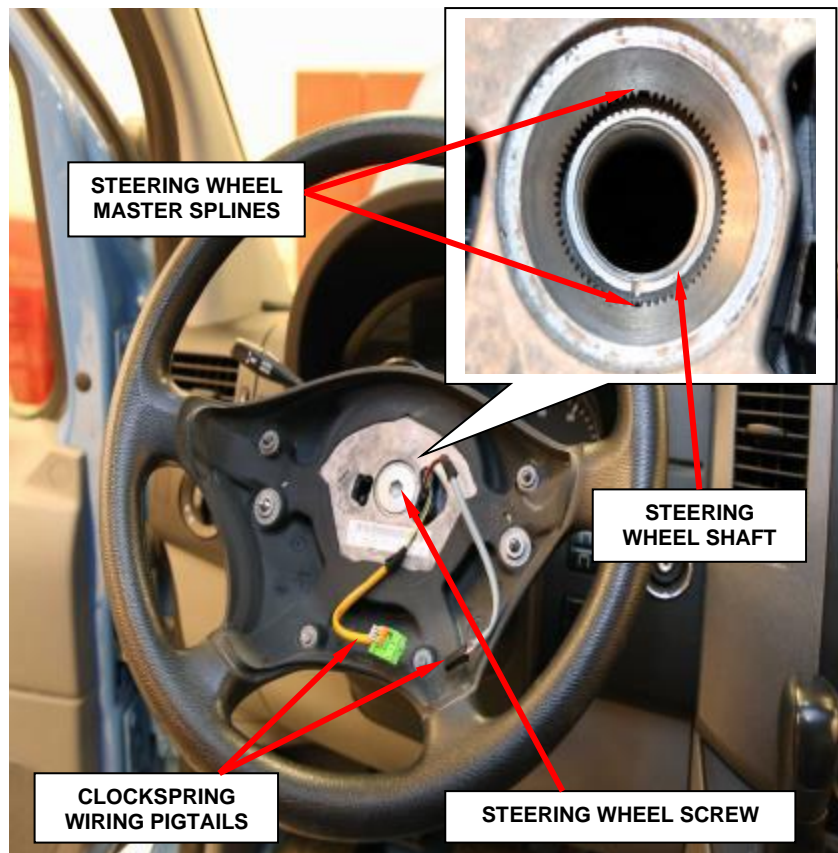

Figure 5 – Steering Wheel
9. Remove and **discard** the steering wheel screw (Figure 5).
12. Route the clockspring wiring pigtails through the **NEW** steering wheel and install the **NEW** steering wheel onto the column (Figure 5).